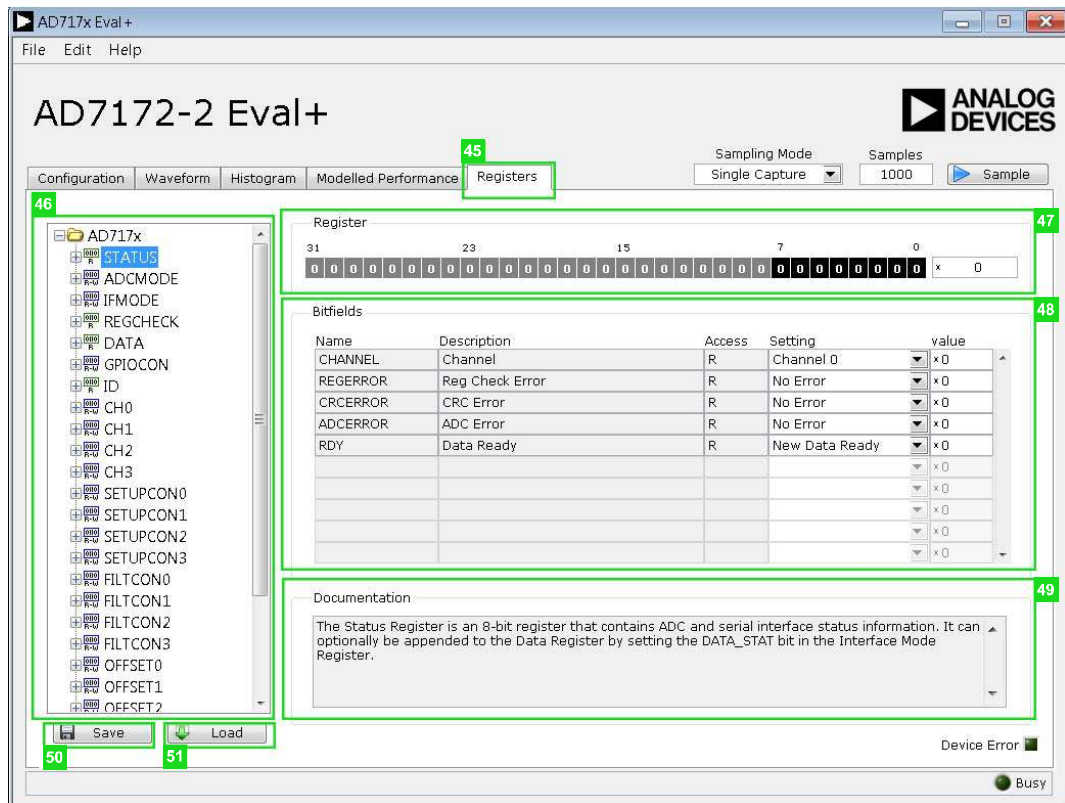

Figure 23. Registers Tab of the AD717x Eval+ Software
Figure 23 shows the **Registers** tab (45).